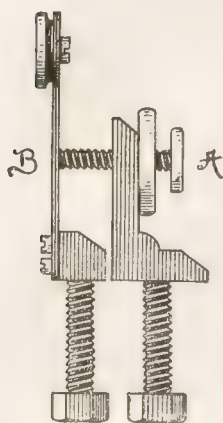

FIG. 15.
This finishes the Coil proper, but there remain to be described several fittings which would require a considerable amount of mechanical skill to make, although they can be very cheaply purchased. The first of these is the automatic contact breaker. This consists, as shown in Fig. 15, of an upright brass pillar (A), carrying a brass screw with a milled head. A milled nut works upon the screw for the purpose of tightening it in the pillar. In close proximity, though forming a separate piece, is a vibrating spring (B), secured by a couple of screws to a brass block, and carrying near the top a circular iron clapper. The two bottom screws are placed through holes in the baseboard, and the nuts screwed on underneath. The milled headed screw is tipped with Platinum, and a small plate of Platinum is also soldered to the spring where the screw touches it. Platinum does not corrode as common metals would under similar conditions. The contact breaker is placed in such a position that the iron clapper shall come in front of the front end of the iron core of the Coil. It also forms in itself part of the primary circuit, the Battery current flowing from the screw to the vibrating spring, and thence to the primary Coil. When the current is started round the primary Coil, it magnetises the iron core, which in turn attracts the iron clapper, drawing the spring out of contact with the screw. This breaks the circuit, stops the current, demagnetises the core, and the spring falls back again upon the screw, again completing the circuit. This action is rapidly repeated, and causes the necessary make and break of the primary circuit.